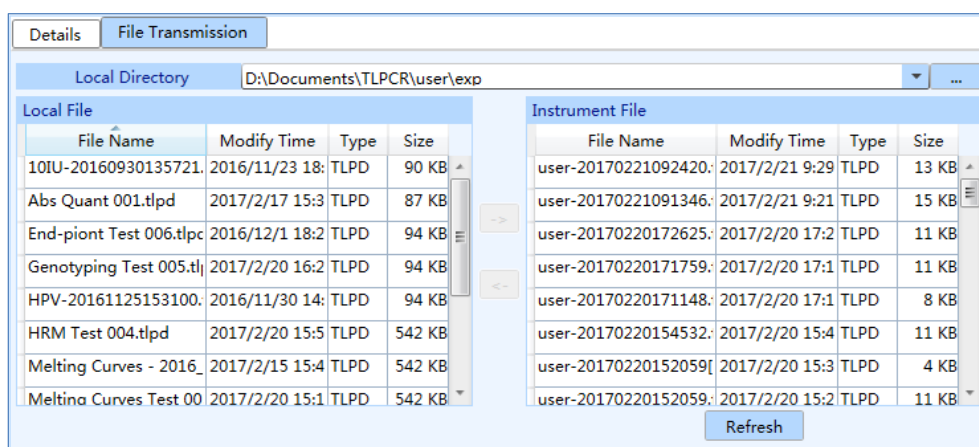

Figure D-3.2d Instrument Management interface - File Transmission tab
- **File Transmission** tab: to transmit the file between the control computer and the connected Gentier instrument, as shown in figure D-3.2d.